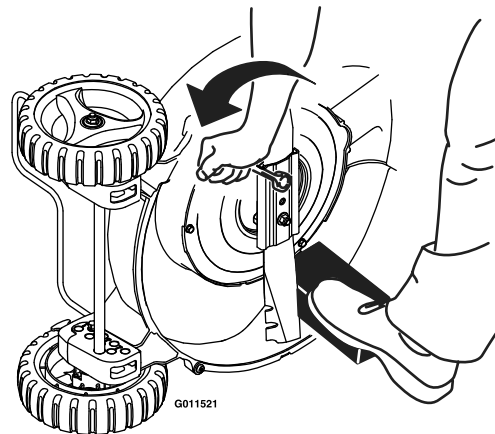

Figure 19
- To remove the blade, use a block of wood to hold the blade steady (see Figure 19). Make sure to grasp the end of the blade using a rag or a thickly padded glove.